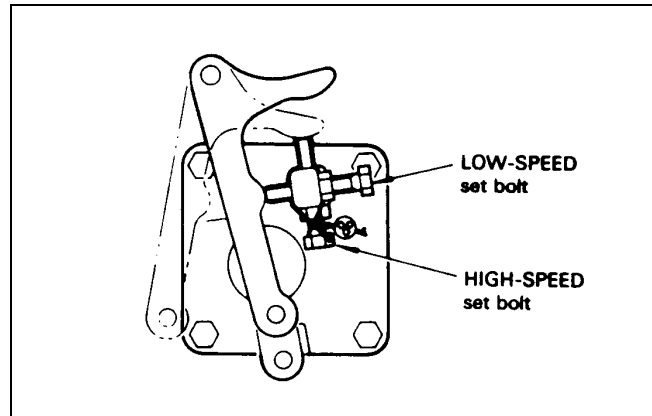

Figure 12
2. Loosen the lock nut on the high speed set bolt (Fig. 12).
3. Loosen the lock nut on the low speed set bolt (Fig. 12).